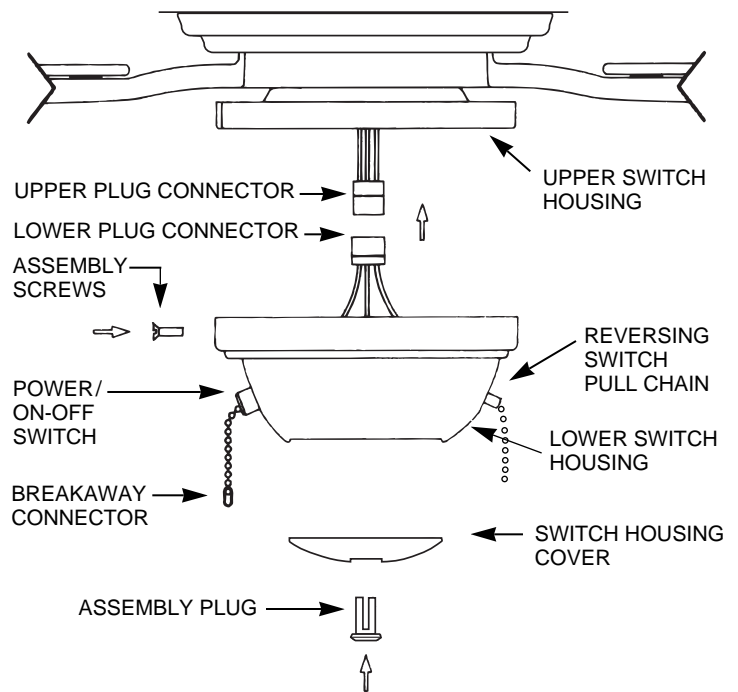

FIGURE 11
**A.** Assemble lower switch housing to upper switch housing. See Figure 11.
First connect the upper and lower plug connectors. See Figure 11.
**B.** Switch operates in this sequence: "High," "Medium," "Low," "Off." Pull chain slowly to operate. Also, release the chain slowly so as to prevent chain from flying up into blades, possibly resulting in damage to blades, or pull chain. The breakaway connector is designed to separate from the chain at a predetermined force. If this separation occurs, simply reinsert the connector. It can be reused again and again. See Figure 11.
**C.** Motor is electrically reversible. When first operating fan, determine direction of air flow. If you wish to change direction, switch fan off and allow to stop. Pull the reversing switch chain and switch fan back on. See Figure 11.